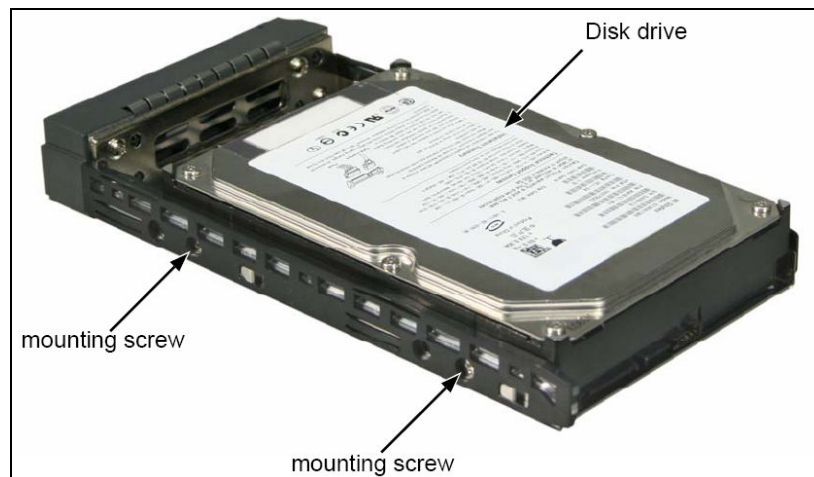

Figure 3-1. Installing the Hard Disk Drive into the Drive Carrier
2. Carefully insert the disk drive into the drive carrier at the front, so that the screw holes on the sides line up and the hard disk drive's electrical connectors are flush with the rear edge of the drive carrier, as shown in Figure 3-1.